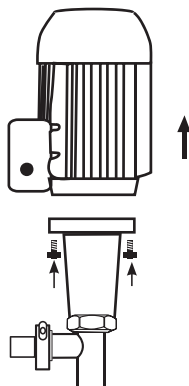

Figure 4
For models SP-700DD: loosen (4) bolts that attach the pump to the motor (see Figure 4).
- Reattach motor and resume operation. (SP-700SR: see Figure 3, page 23); (SP-700DD: see Figure 4, page 23).